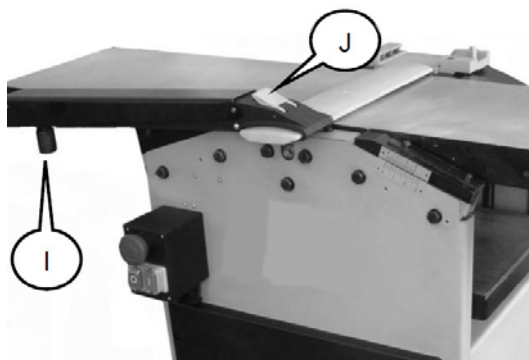

Fig. 20: Adjusting the splitter shaft cover
Step 4: Adjust the planer shaft bridging protection with the knurled screw (I, Fig.20).
Step 5: By loosening the locking knob (J, fig.20), the cutter head's blade guard can be moved sideways and the blade guard adjusted to the correct width.
Step 6: After the adjustments have been made, retighten the locking knob (J, Fig.20).